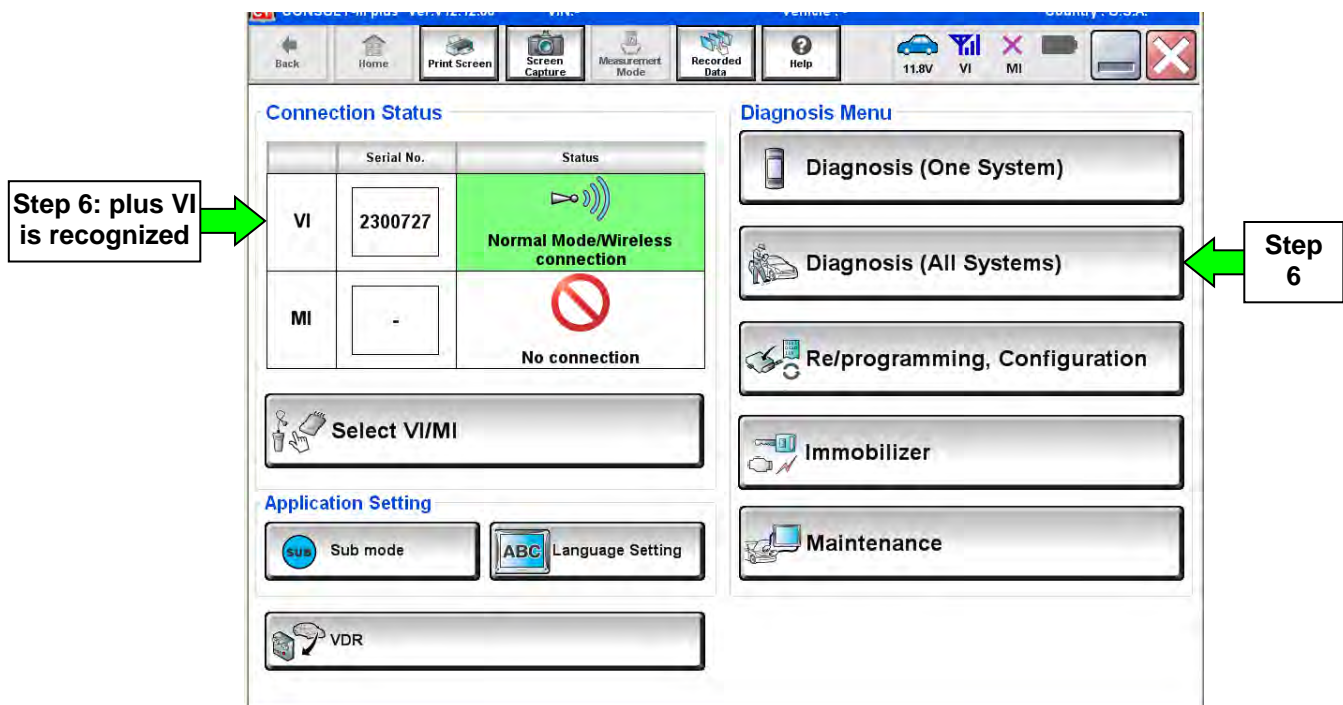

Figure 1
22. Select **Home** to return to the screen shown in Figure 1 page 5.